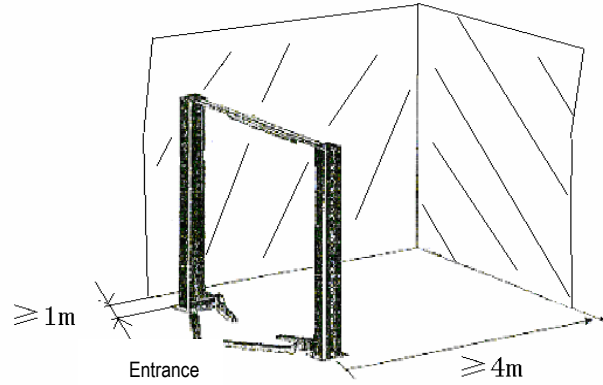

Fig. 8
- The front and back of the lift should be reserved with sufficient space to accommodate all the vehicles (Fig. 8).(evaluating from the center line ,each edge should be about 4m)